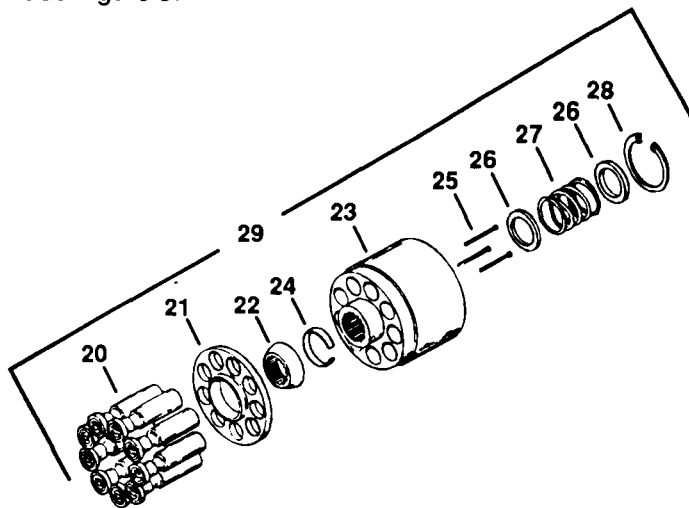

Figure 3
8 Install the washer (26), spring (27), and second washer (26) in the piston block. Use the two 5/16 I.D. washers and the 5/16 x 2-7/8 cap screw to compress the spring and retain with retaining ring (28). Remove the 5/16 x 2-7/8 cap screw and the two washers. See Figure 3.